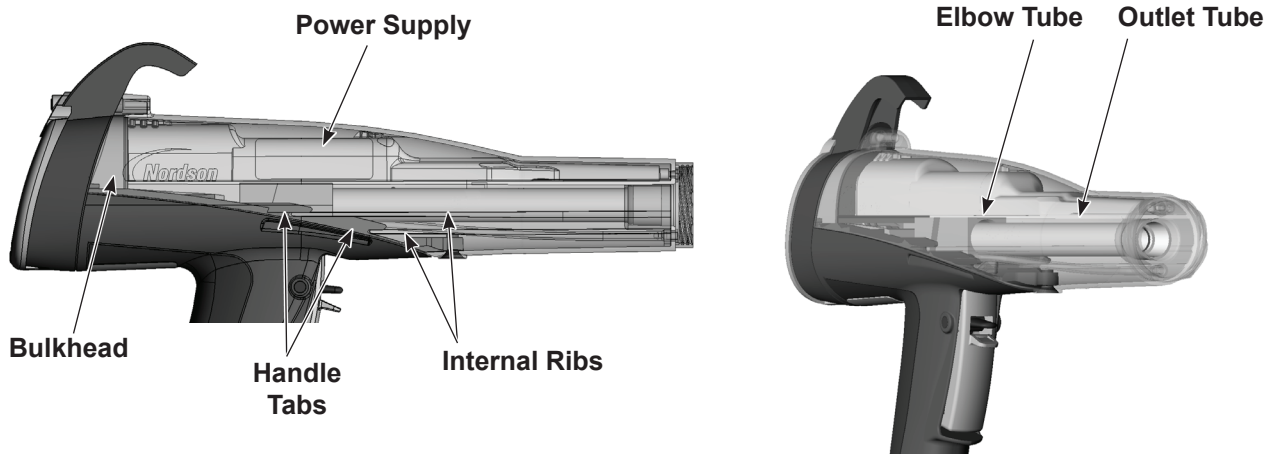

Figure 15 Gun Re-assembly
1. See Figure 15. Align the gun body with the handle and slide them together, engaging the internal ribs of the gun body with the handle tabs.